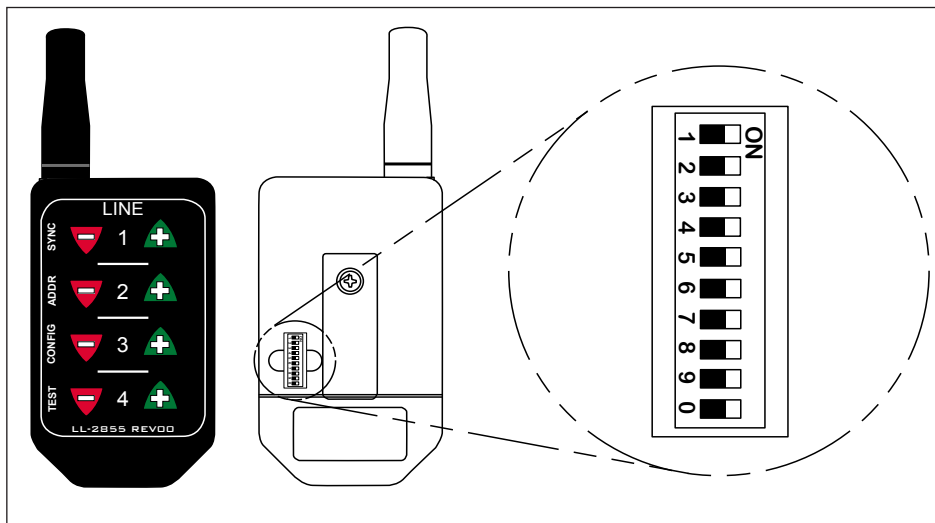

Figure 4: FLR3 Key Fob
1. Remove the small cover on the back of the FLR3-400 key fob radio. Refer to **Figure 4**.
2. While display is booting up, or within 5 minutes, press and hold Line one Plus (+) and Minus (-) keys until the decimal flashes 3 times. Refer to **Figure 4**.